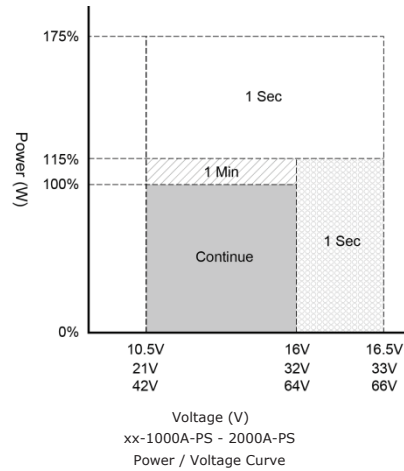
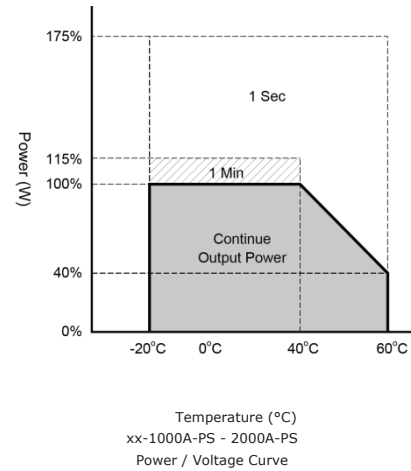

Figure 1. xx-1000A-PS - xx-2000A-PS
Figure 2. xx-1000A-PS - xx-2000A-PS
- ① Voltage range : Please refer to Figure 1
② Normal load Condition : Vin =12.5V/25V/50V, Vo=100/110/115/120 VAC 80% load (PF=1.0)
③ Operating temperature : Please refer to Figure 2
- ② Normal load Condition : Vin =12.5V/25V/50V, Vo=100/110/115/120 VAC 80% load (PF=1.0)
- ③ Operating temperature : Please refer to Figure 2
- ④ **Warning** : This is a class A product. In a domestic environment this product may cause radio